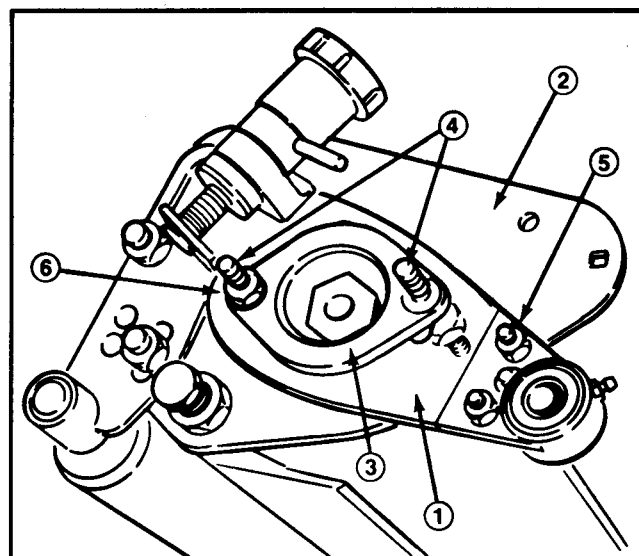

Figure 42
7. Remove locknut from the right end of groomer reel shaft to remove groomer reel. Remove grooming reel adjustment knob assembly from right side groomer plate assembly (Fig. 42).
8. Remove two (2) flange locknuts (reel motor mounting nuts). Remove two (2) inside locknuts. Use a stud removal tool or double nuts to remove special studs. Remove groomer bearing adapter and right side groomer plate (Fig. 42).
13. Install right side groomer plate assembly and bearing adapter. Use a stud installation tool or double nuts to tighten two (2) special studs to 17 - 21 ft-lb. Make sure a spacer is installed over each stud between groomer bearing adapter and reel bearing housing. Tighten two (2) inside locknuts to 23 - 27 ft-lb. Install two (2) flange locknuts (reel motor mounting nuts). (Fig. 42).
14. Install grooming reel adjustment knob assembly to right side groomer plate assembly (Fig. 42). Install groomer reel shaft to right side groomer plate assembly and install locknut on right end of groomer shaft.